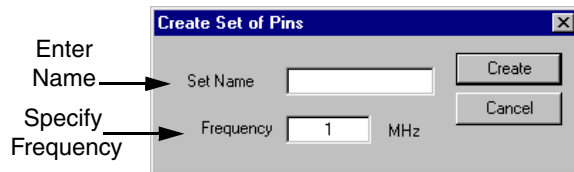

Figure 1-7. Create Set of Pins Dialog Box
- 2. Select a set of pins.** This displays the Create Set of Pins dialog box (Figure 1-7).